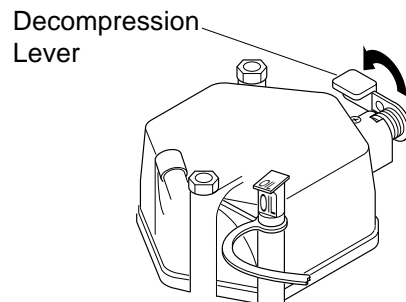

Figure 17 - Decompression Lever
- I. Push decompression lever all the way down (see Figure 17). Decompression lever will stay in this position until you turn starting key.